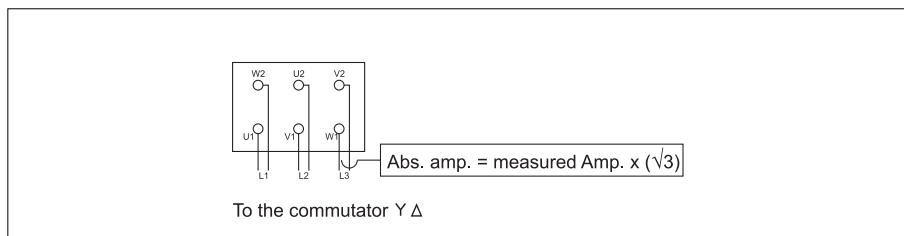

FIG. 31 (Electric equipment)
5.8.1- Electric equipment (FIG. 31)